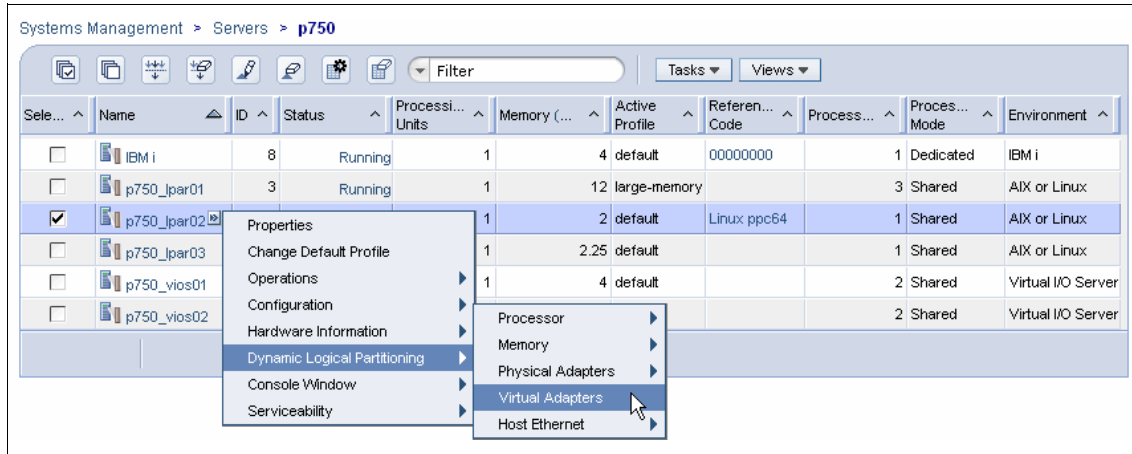

Figure 8-1 Dynamically adding a virtual adapter to a partition
1. Navigate to the partition and select **Dynamic Logical Partitioning** → **Virtual Adapters** as depicted in Figure 8-1.